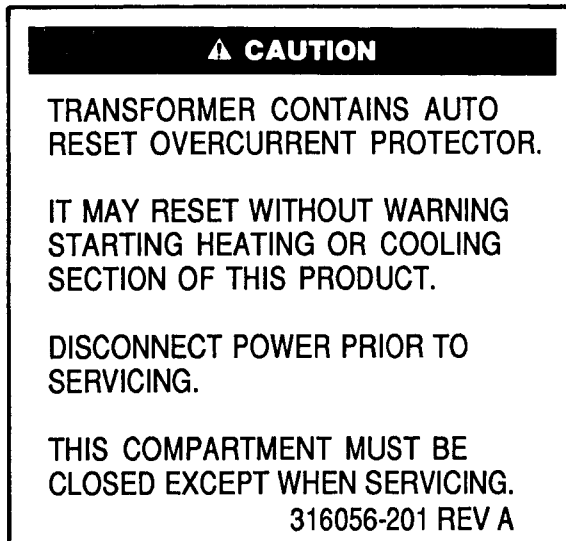

Fig. 13 — Transformer Label
2. Run high-voltage leads into unit control box and connect to contactor. See unit wiring label, and Fig. 13.
4. Connect wires to power leads. See unit wiring label or Fig. 13.
3. Run high-voltage leads into control box and connect to contactor. See unit wiring label and Fig. 13.